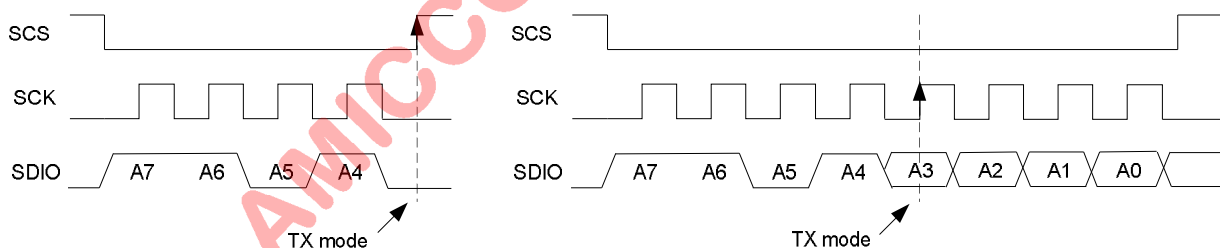

Figure 10.9 TX mode Command Timing Chart
- Step4: Send Strobe command of TX mode (Figure 10.9) to do TX delivery.